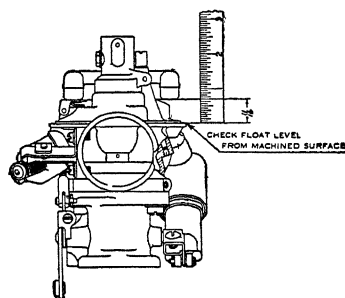

Fig. 145. Checking and Adjusting Chrysler-Plymouth Float Level
*Float Level Adjustment.* The correct float level is  $\frac{1}{16}$  inch from the top of the float to the machined surface of the casting when the needle is closed, Fig. 145. When resetting the float level, if this should be necessary, the work is done by bending the float lever lip which comes in contact with the gasoline intake needle. Bending the lip up will lower the float level and bending it down raises the gasoline level. Only a very slight bend is necessary.